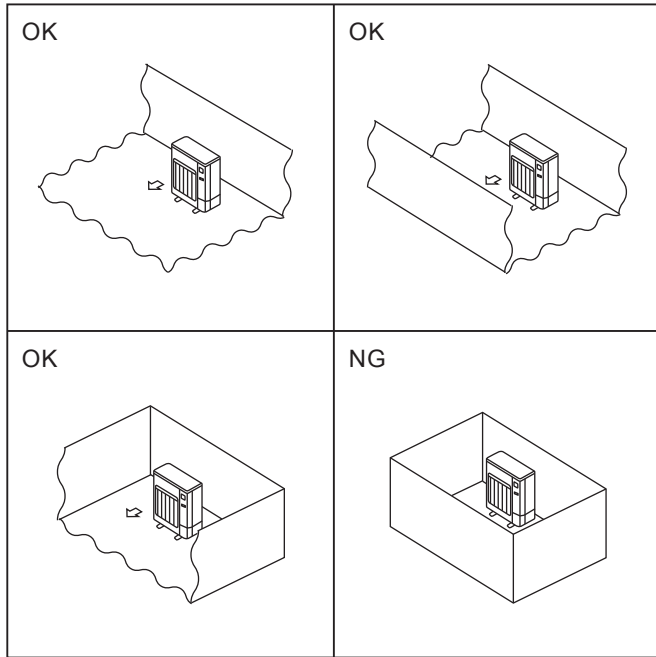

Fig. 1-1
- Ⓞ Install outdoor units in a place where at least one of the four sides is open, and in a sufficiently large space without depressions. (Fig. 1-1)